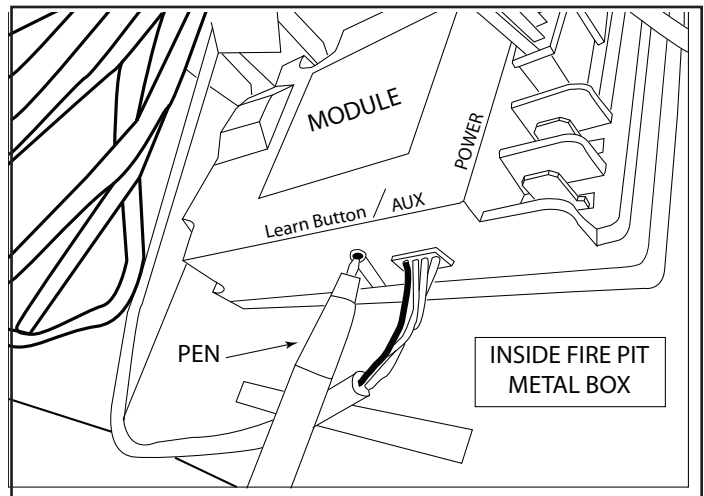

Fig. 10 Learn button location
3. Once the Learn button is located, press and release the button once. You will hear a beep indicating that the module is ready to receive a transmitter code (See fig. 10)